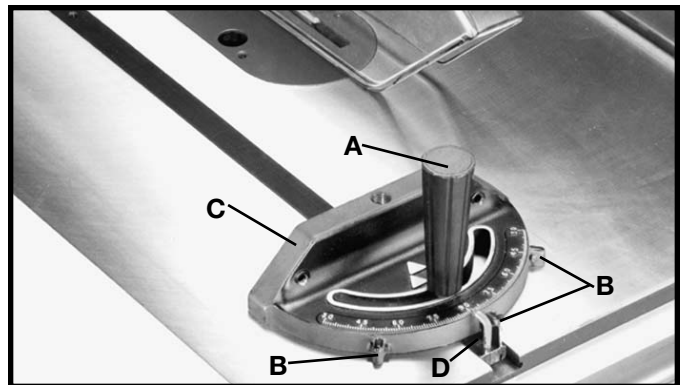

Fig. 48
The miter gage is equipped with adjustable index stops at 90 degrees and 45 degrees right and left. Adjustment to the index stops can be made by tightening or loosening the three adjusting screws (B) Fig. 48, with allen wrench supplied.
To rotate the miter gage, loosen lock knob (A) Fig. 48, and move the body of the miter gage (C), to the desired angle.
The miter gage body will stop at 90 degrees and 45 degrees both right and left. To rotate the miter gage body past these points, the stop link (D) Fig. 48, must be moved up and out of the way.